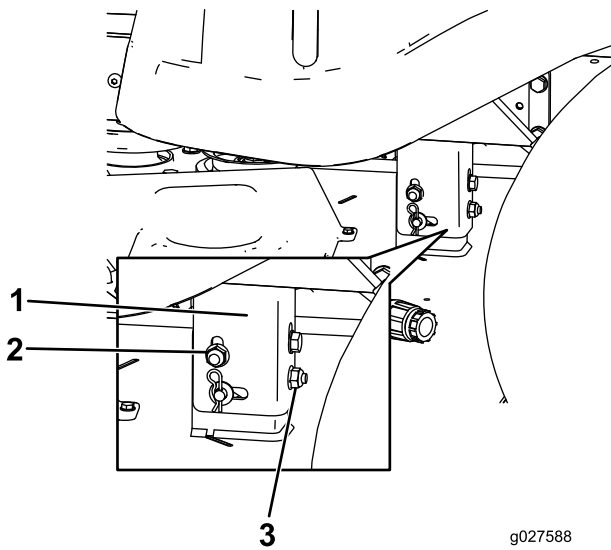

Figure 54
8. Raise or lower the left side of the mower deck by rotating the rear locking nut. (Figure 54).